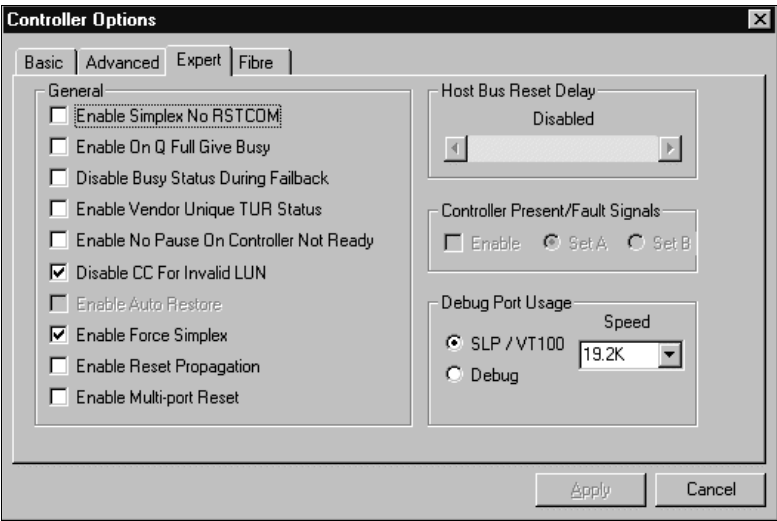

Figure 6: SAM Expert Controller Options Dialog Box (simplex)
- Open the *Expert* dialog box and set the parameters as shown in figure 6.